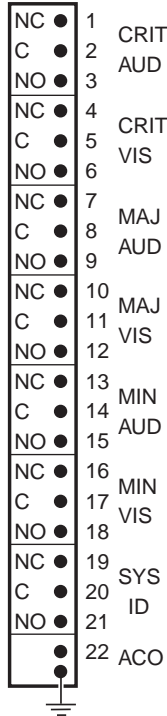

Figure 7. Terminal Strip TB2, HMU-319 Alarm Outputs
- 5 Connect the optional alarm outputs to TB2 as shown in Figure 7.